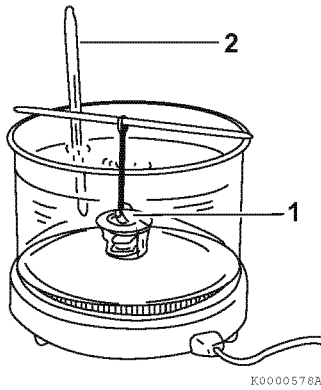

Figure 8-7
1. Check for proper operation of the thermostat. Place the thermostat (Figure 8-7, (1)) and an accurate thermometer (Figure 8-7, (2)) in warm water.